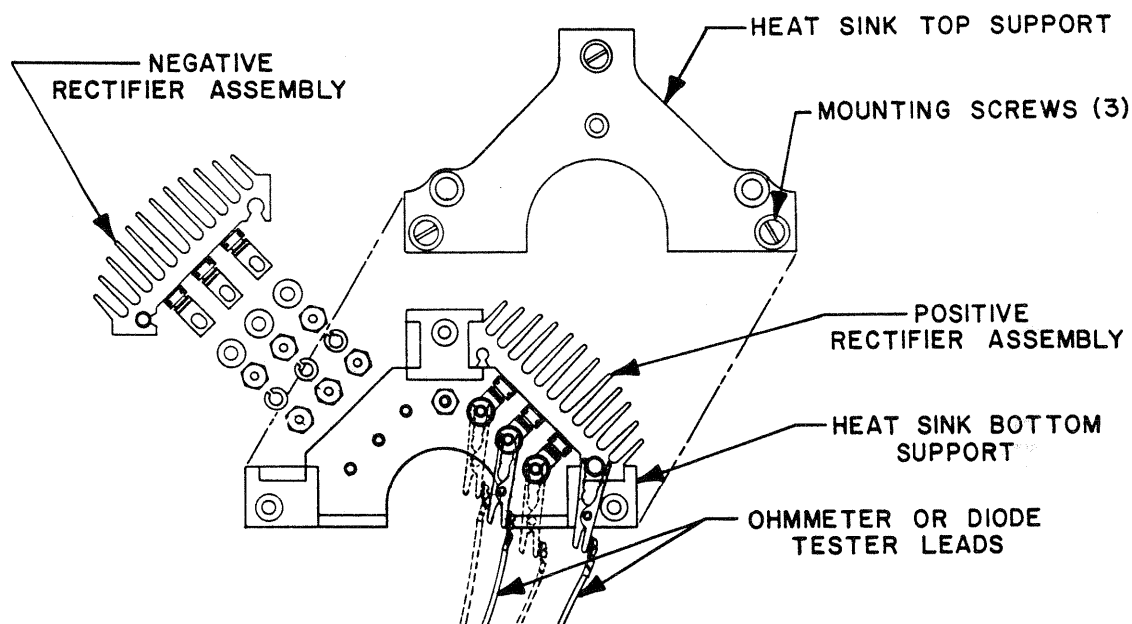

FIG. 8
F. POSITIVE RECTIFIER TESTING (See Fig. 8)
G. NEGATIVE RECTIFIER TESTING (See Fig. 8)